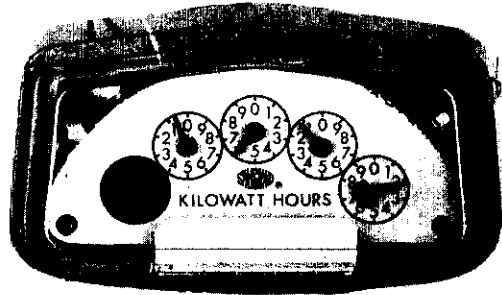

FIG. 2
- Fig. 2. 4-dial x 1 register, driven by a watthour meter that has a 4-dial x 1 register such as a 100/200 ampere meter with "100" tag in place. See E-16. Can also be driven by a 5-dial x 1 register on the watthour meter.